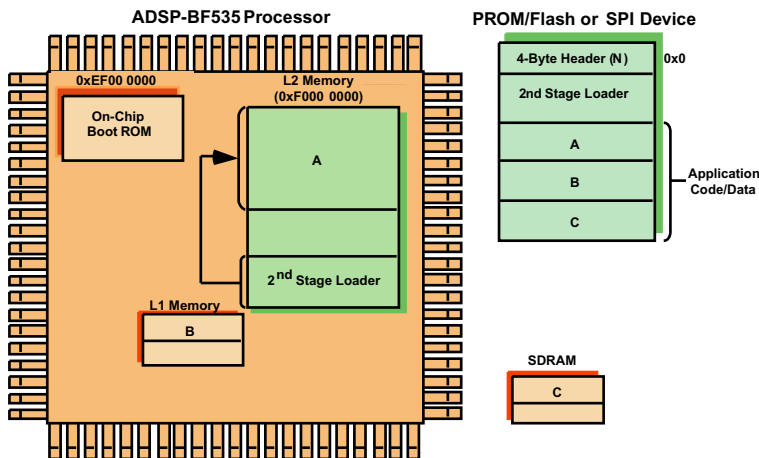

Figure 2-6. ADSP-BF535 Processors: Starting Application Code
4. Finally, after booting, the second-stage loader jumps to the start of L2 memory (0xF000 0000) for application code execution (Figure 2-6).